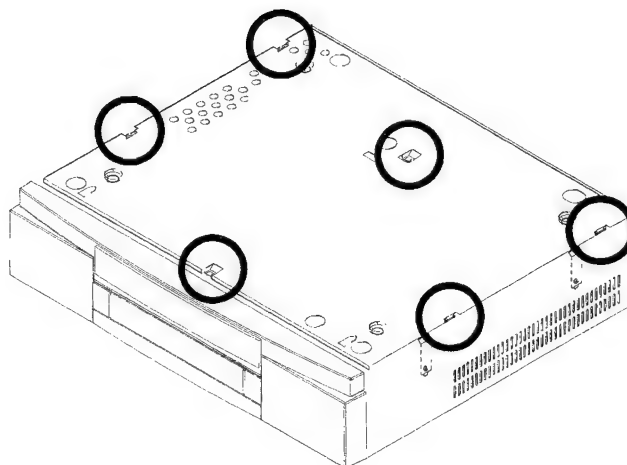

Fig. 2
- The bottom plate can be lifted off by releasing the six snap hooks (see fig. 2).